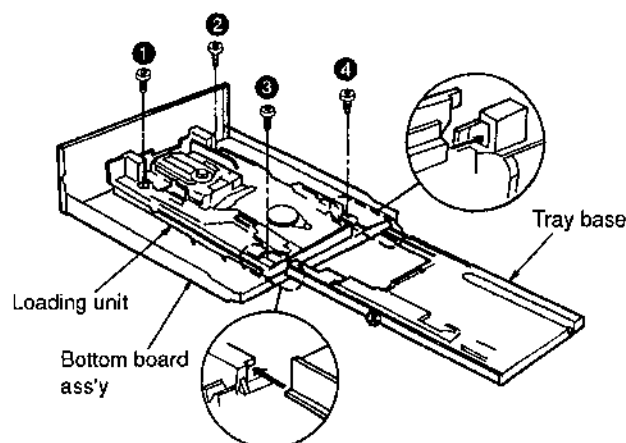

Fig.1
1. Install the loading unit on the bottom board ass'y and secure it with 4 screws (1~4). (See Fig.1)
2. Install the tray base on the loading unit. (See Fig.1)